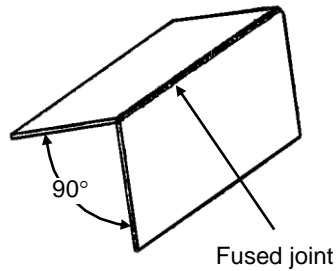

FIG 14.
2. Weld the joint on the outer edge by fusion. (See Fig 14)